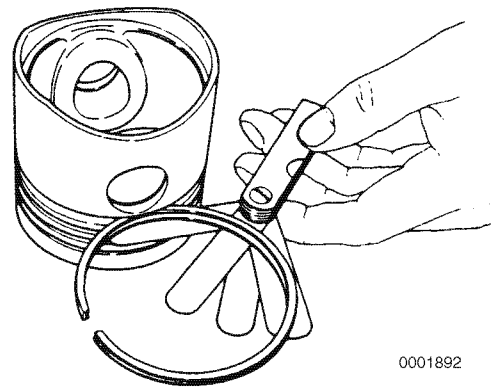

Figure 6-117
9. Place each compression piston ring in the groove as shown (**Figure 6-117**). Use a feeler gauge to measure the clearance between the piston ring and the piston ring land. Record the measurements. See *Piston Ring on page 6-16 for specifications*. Replace the piston if not within specification.